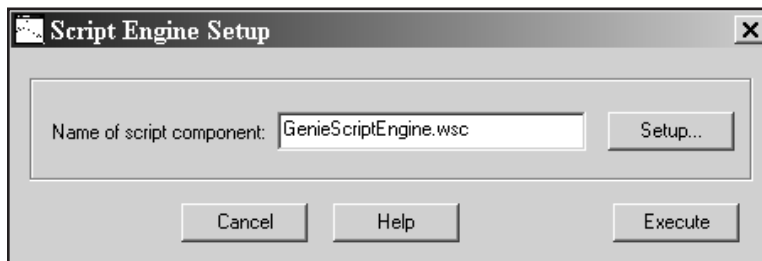

Figure 109 Script Engine Setup
The Script Engine Setup (Figure 109) lets you specify a Visual Basic® or Java® script to execute on the currently opened datasource. This lets you perform custom operations within the Genie 2000 Acquisition and Analysis environment.
- Enter the script's name in the Name of Script Component text box (Figure 109).